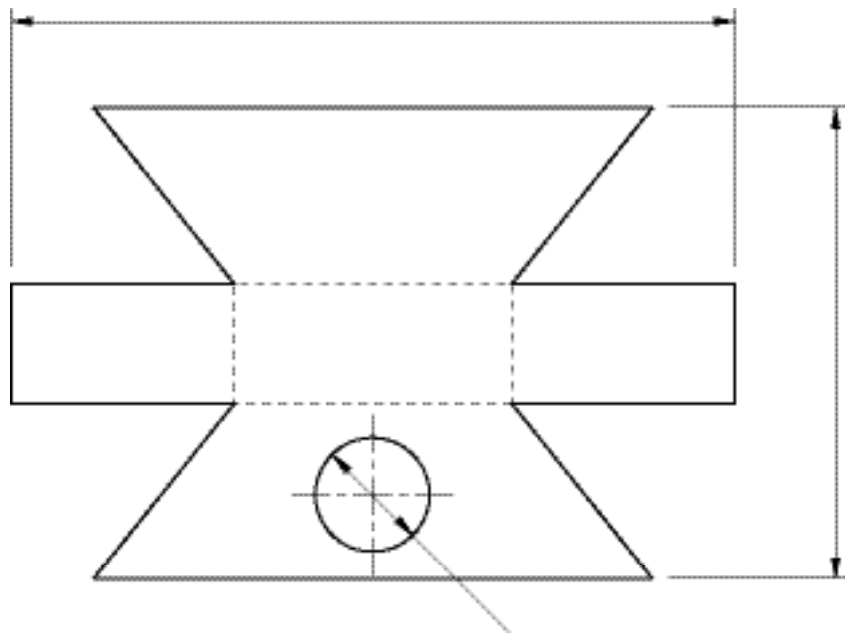

Fig. 3
- Fig. 3 shows the net of the top of the lantern n.